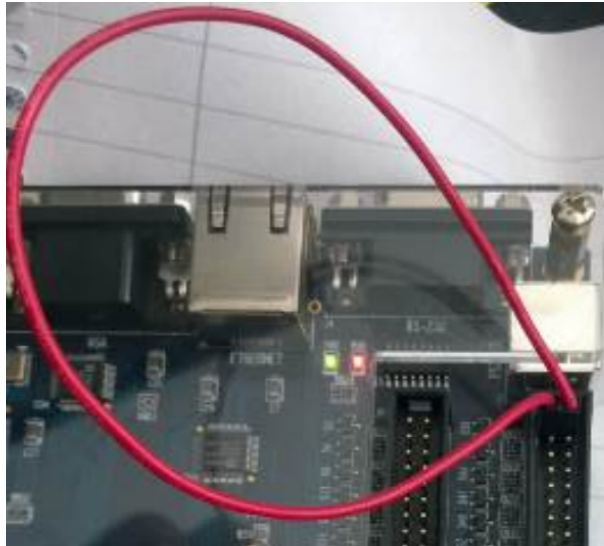

Fig. 5: *GPIO1 connections.*
- b)** Connect `GPIO_1` pin 0 and pin 1 with a wire as shown in figure 5.